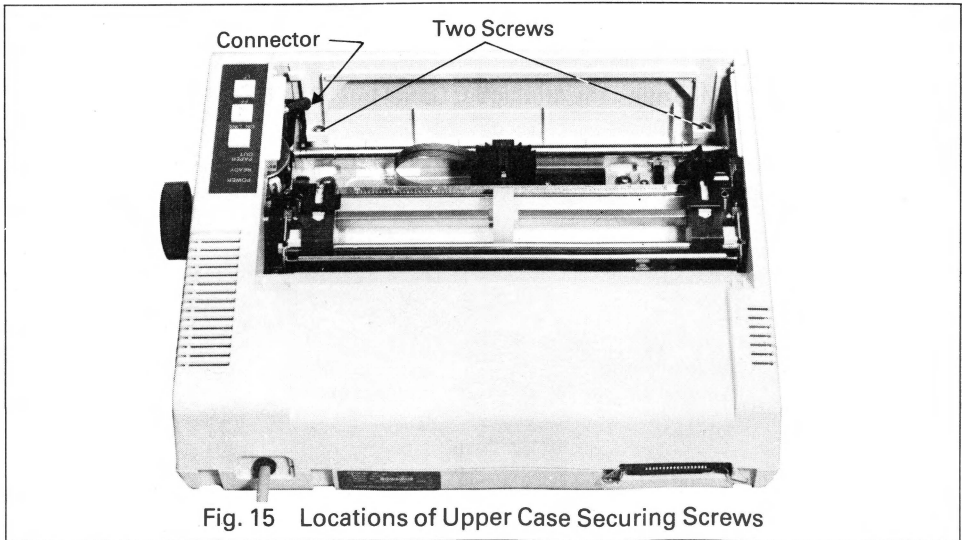

Fig. 15 Locations of Upper Case Securing Screws
- 1) Remove the two screws securing the upper case shown in Fig. 15.